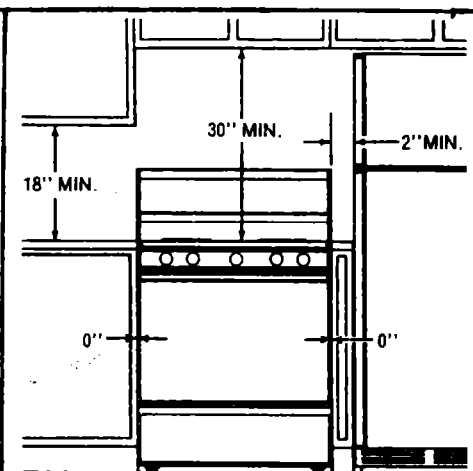

Fig. 3
- There must be a distance of at least 30" between the cooktop and any overhead cabinets for an area equal to the width and depth of the range (30" by 28"). See Figure 3.
- Keep at least 2" between the sides of the range and burnable things next to it, for a distance, from the cooktop upward, of at least 18". See Figure 3.